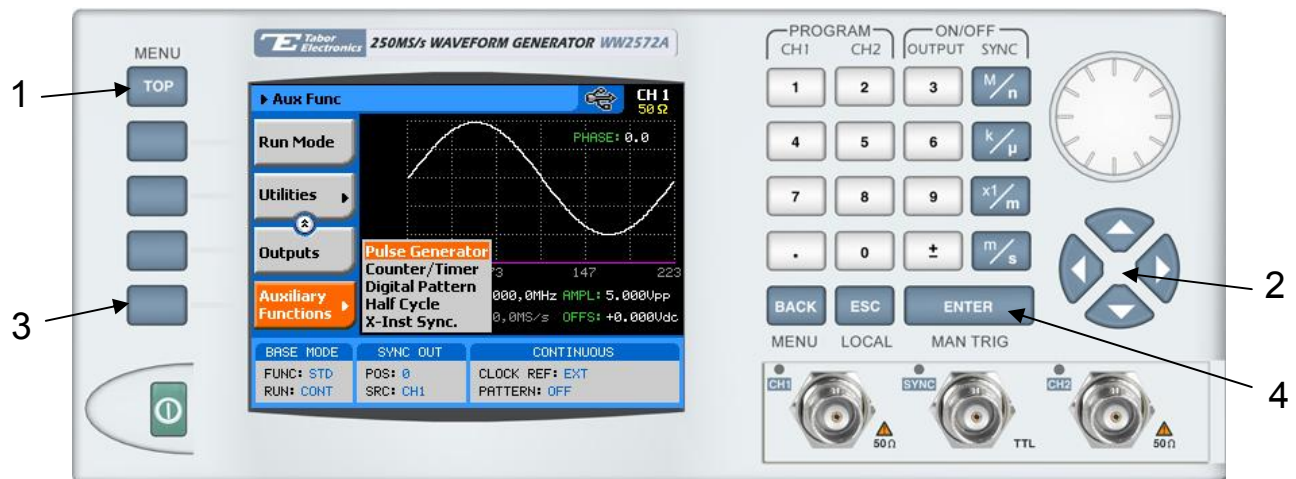

Figure 3-50, Accessing the Pulse Generator Menus
3. Press Auxiliary Functions soft key and notice that the Pulse Generator option is highlighted, as shown in Figure 3-50.